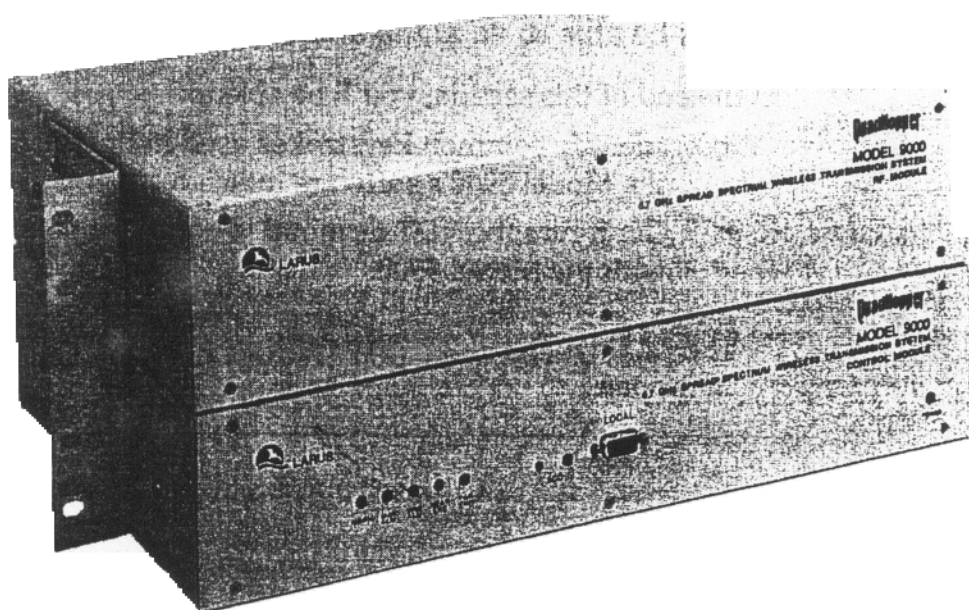

**Figure 1-1. Model 9000 Spread Spectrum 5.78 GHz
The 9000 radio interconnects digital links between near-end and far-end locations. At each end, the radio system consists of a single antenna and a Radio Frequency (RF) Module and Control Module assembly. (Refer to Figure 1-1): The Model 9000 complies with FCC Part 15.247 and Canada 210, which specify the license-free operation of spread spectrum radio equipment within the 5.730 to 5.845 GHz band reserved for industrial, scientific, and medical (ISM) applications.